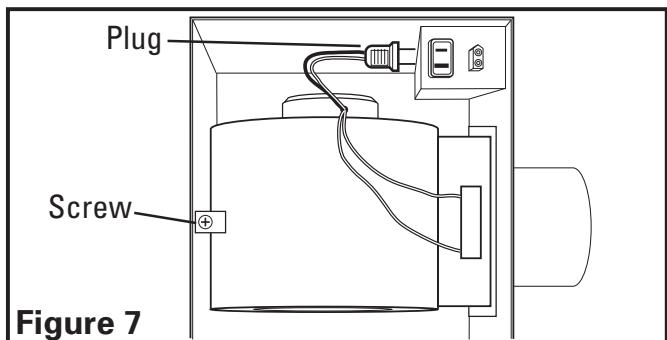
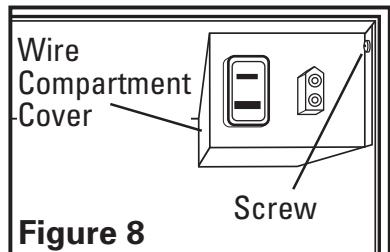

Figure 7
Figure 8
- 1b. **Internal Wire Compartment:** Remove the screw holding the blower assembly in place. Lift up on the assembly and tilt it at a 45° angle to remove from the housing (**Figure 7**). Remove the wire compartment cover screw and place the cover in a secure place (**Figure 8**).
- Insert the fan's plug into the receptacle (**Figure 7**).